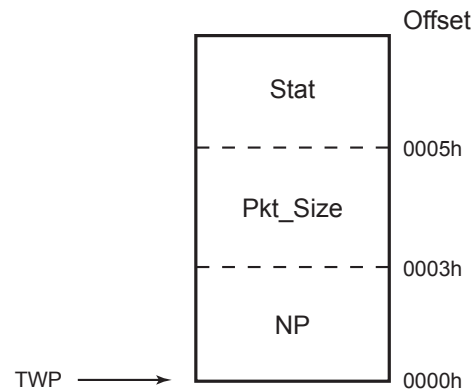

Figure 62. Descriptor Table Entries
The TxDMA module moves the next packet to be transmitted from EMAC memory into the TxFIFO. Whenever the polling timer expires, the TxDMA reads the High status byte from the Tx descriptor table pointed to by the Transmit Read Pointer, TRP. Polling continues until the High status Read reaches bit 7, when the Emac_Owns ownership semaphore, bit 15 of the descriptor table (see Table 178 on page 299) is set to 1. The TxDMA then initializes the packet length counter with the size of the packet from descriptor table bytes 3 and 4. The TxDMA moves the data into the TxFIFO until the packet length counter downcounts to zero. The TxDMA then waits for Transmission Complete signal to be asserted to indicate that the packet is sent and that the Transmit status from the EMAC is valid. The TxDMA updates the descriptor table status and resets the ownership semaphore, bit 15. Finally, the Tx_DONE_STAT bit of the EMAC Interrupt Status Register is set to 1, the address field, DMA_Address, is updated from the descriptor table next pointer, NP (see Figure 62 on page 298). The High byte of the status is read to determine if the next packet is ready to be transmitted.
The descriptor table contains three entries: the next pointer (NP), the packet size (Pkt_Size) and the packet status (Stat), as illustrated in Figure 62.